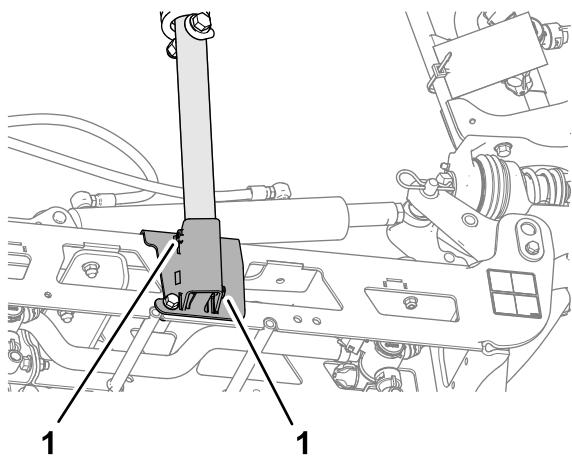

Figure 111
3. Loosen the 2 setscrews that secure the lower cradle tube (Figure 111).